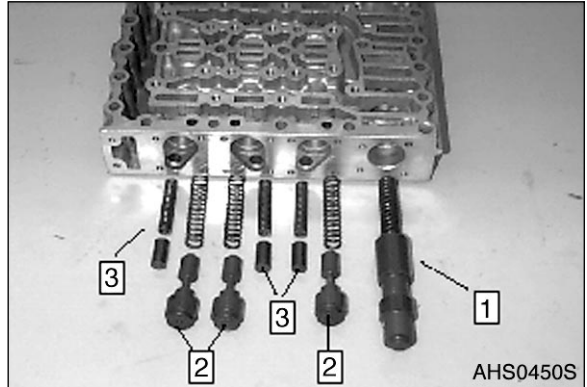

Figure 62
A. Figure 62, shows the following components:
- B. Install components according to Figure 62.